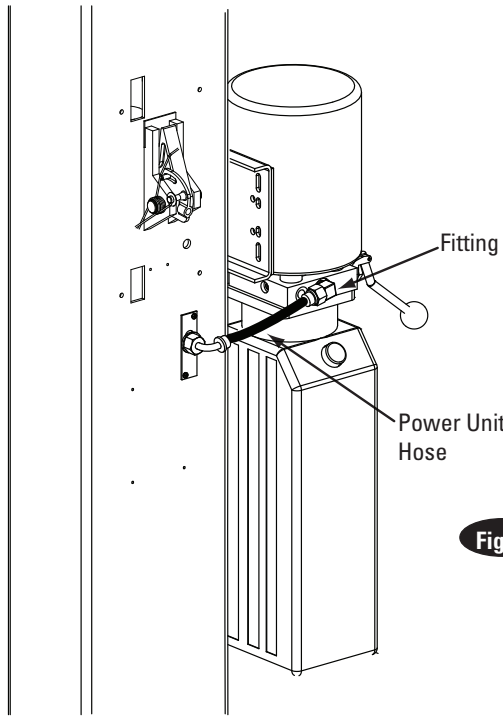

Fig. 13
1. Connect the free end of the second shortest hose Pc. (2), from paragraph 3, to the power unit side cylinder Pc. (1). Run hose through channel inside column.
3. Run the free end of the longest hose Pc. (3), from paragraph 3, through hose clamps Pc.(9), and channel. Then connect it to the slave side cylinder.
4. Take the end of the remaining hose Pc. (4) out of the column and connect it to the fitting on the power unit Fig. 13.